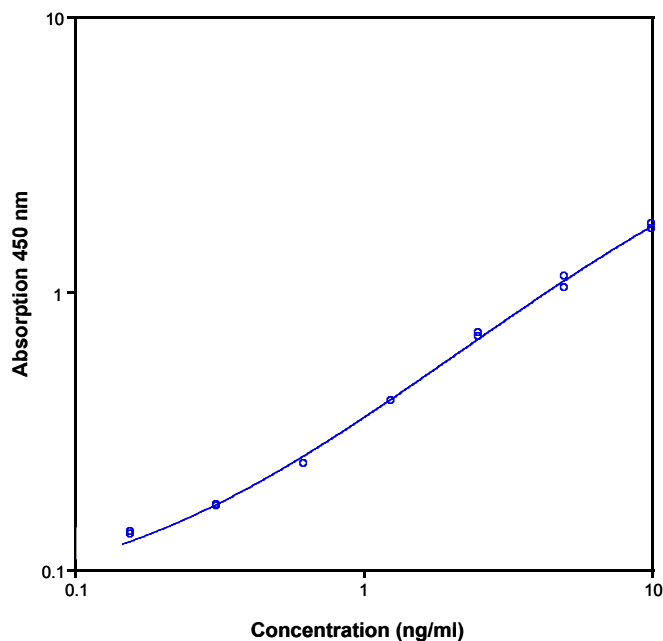

Fig. 8 Representative standard curve for human caspase 8 ELISA. Human Caspase 8 was diluted in serial 2-fold steps in Sample Diluent.
- A representative standard curve is shown in Figure 8.